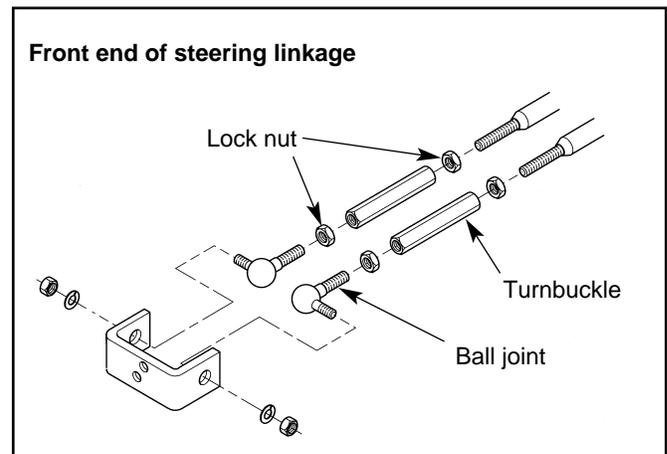

Figure 5-1
The tractor steering has been factory adjusted to eliminate creeping when the neutral lock is engaged. However, should the tractor begin to creep, the steering control lever linkage can be adjusted as follows (Fig. 5-1 and 5-2):
4. If wheel(s) are rotating forward, loosen the lock nuts on the turnbuckles and rotate the turnbuckle to shorten the linkage referenced in Fig. 5-1 until the wheel(s) come to a stop.
5. If wheel(s) are rotating in reverse then loosen the lock nuts on the turnbuckle and rotate the turnbuckle to lengthen the linkage as referenced in Fig. 5-1 until the wheel(s) come to a stop.